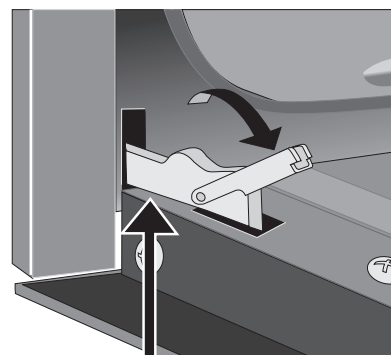

Figure 14: Unlocking door hinge
4. Pull the bottom of the door toward you while rotating the top of the door toward the appliance to completely disengage the hinge levers (Figure 14).